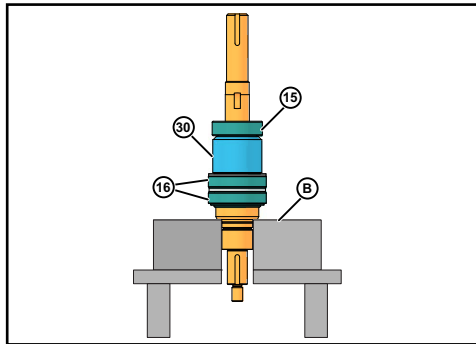

Figure 45 - Remove Bearings From Shaft
11. Use a hydraulic press and V-blocks (Figure 45, item B) to remove the bearings (items 15 and 16) and spacer (item 30)